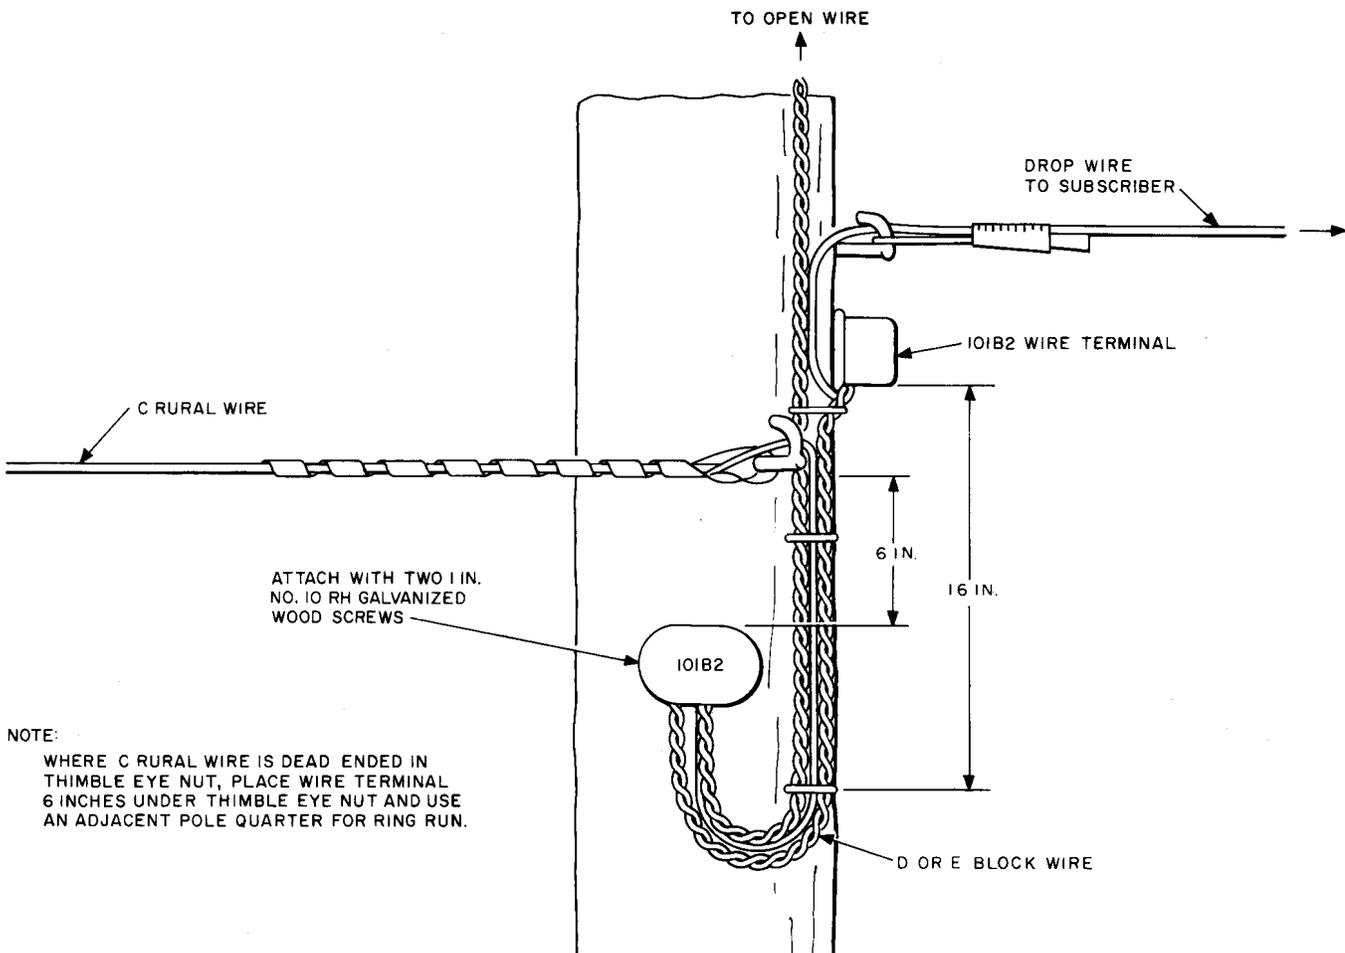

Fig. 7—C Rural Wire Terminated in 101B2 Terminal
3.02 C rural wire may also be terminated in a 101B2 wire terminal as shown in Fig. 7. At least 2 feet of D or E block wire shall be used between the 101B2 wire terminals to serve as a fusible link between the C rural wire and the subscriber drop wire.